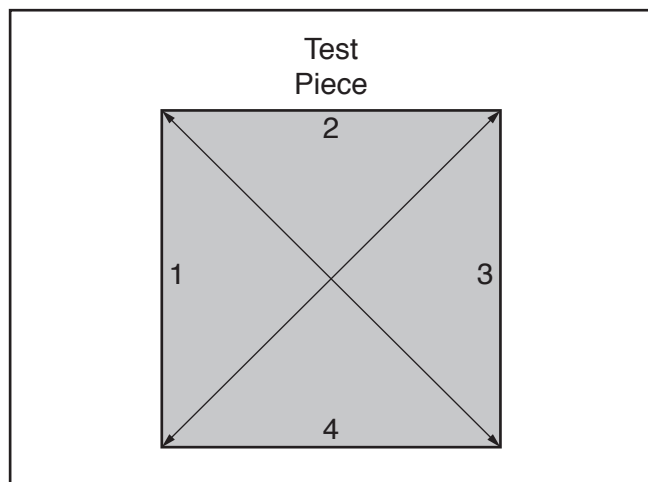

Figure 163. Diagonals to measure on test piece.
6. Measure test piece diagonally from corner-to-corner, as shown in **Figure 163**.